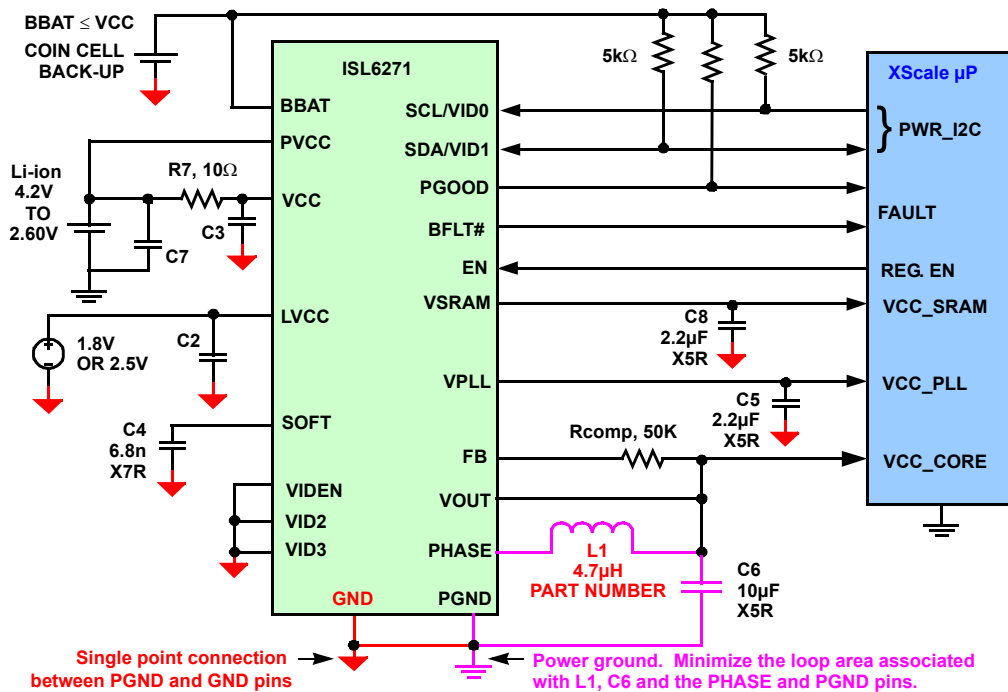

FIGURE 19. TYPICAL APPLICATION CIRCUIT
In a typical XScale configuration, the processor’s “Power Manager” will issue the voltage and slew rate commands to the ISL6271 over it’s PWR\_ I2C bus after the ISL6271 acknowledges its address. The data byte is composed of two pieces of ‘set’ information: The prescribed voltage level embedded in bits D0-D3, and the prescribed transition slew rate (from the previous voltage to the target voltage) embedded in bits D4-D5. Each set of bits is transmitted MSB first. This protocol is depicted in Figure 19.
To minimize switching noise, it is important to keep the loop area associated with the phase node and output filter as short as possible. It is also important that the input voltage decoupling capacitor C7 be located as close to the PVCC pin as possible and that it has a low impedance return path to the PGND pin. In general a good approach to layout is to consider how switching current flows in a circuit, and to minimize the loop area associated with this current. In the case of the switching regulator, current flows from C7 through the internal upper P-MOSFET, to the load through the output filter and back to the PGND pin. *To maximize the effectiveness of any decoupling capacitor, minimize the parasitic inductance between the capacitor and the circuit it is decoupling.* Notice that Figure 19 illustrates the SIGNAL ground with RED highlighting. All components associated with these terminals should be tied together first. Be sure to make only one connection between this net and the PGND pin to avoid ground loops and noise injection points into sensitive analog circuitry.
1. Do not leave pins VID2(5) or pin VID3(6) floating when using the I2C bus. Tie these pins to GND (16).
2. Make sure that load current on VOUT returns to the pin (7) (PGND). Pin 16 (GND) functions as a quiet return for the LVCC loads. It is internally tied to the device substrate (pin 21). Tie Pin 16 to Pin 7 at a single point as in Figure 19.